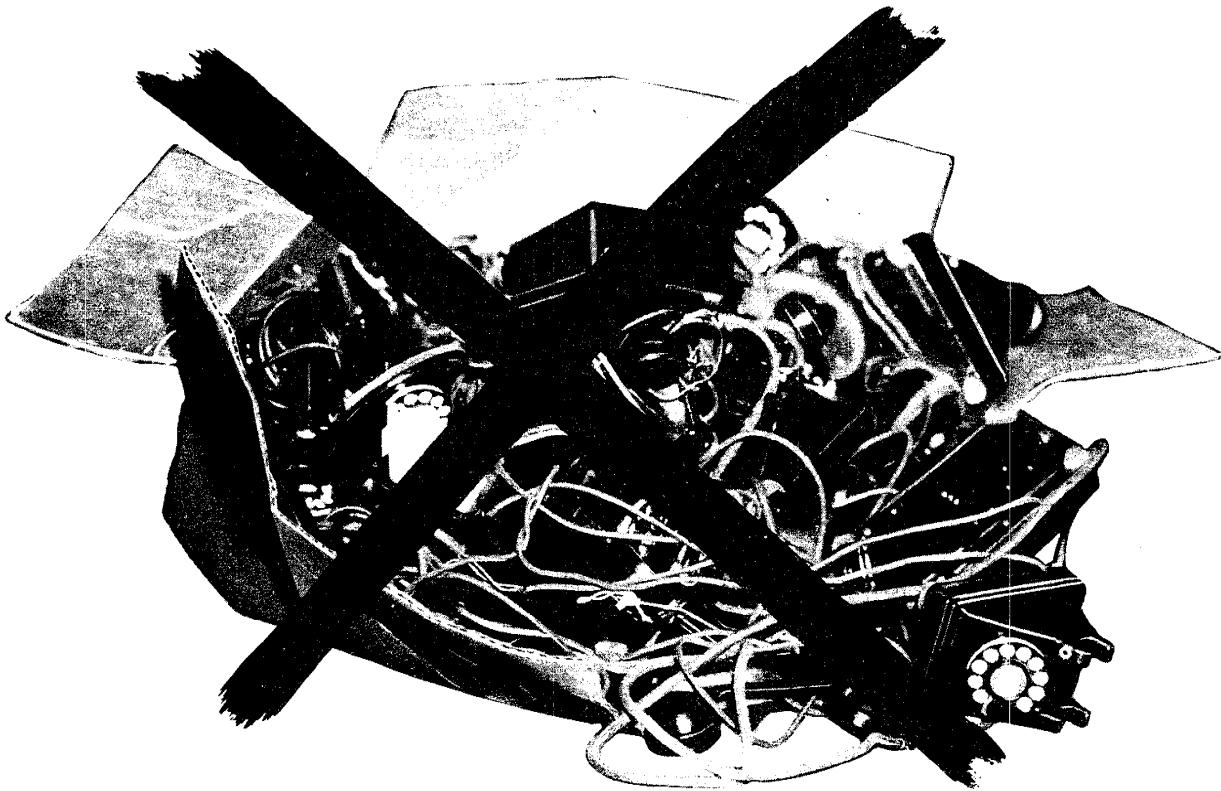

Fig. 1
- Coil mounting cord loosely around upper part of set (Fig. 1).